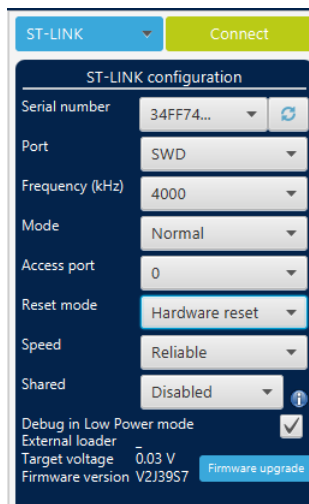
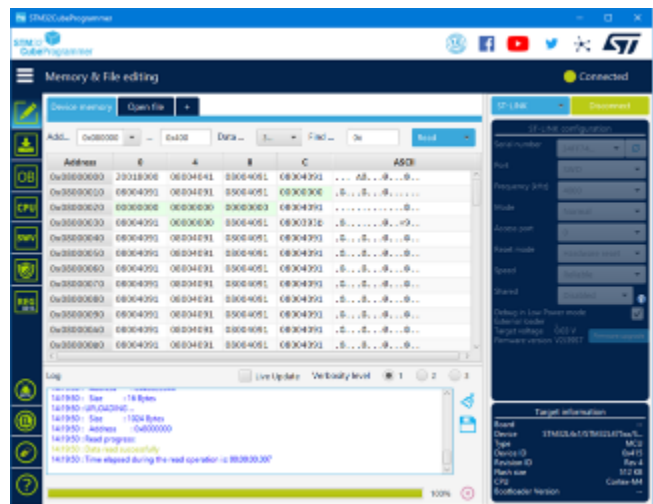

fig. 21 – Click Connect
fig. 22 – Wait the connection
2. Set ST-LINK configuration parameters and do the connection as described from fig. 21 to fig. 22.